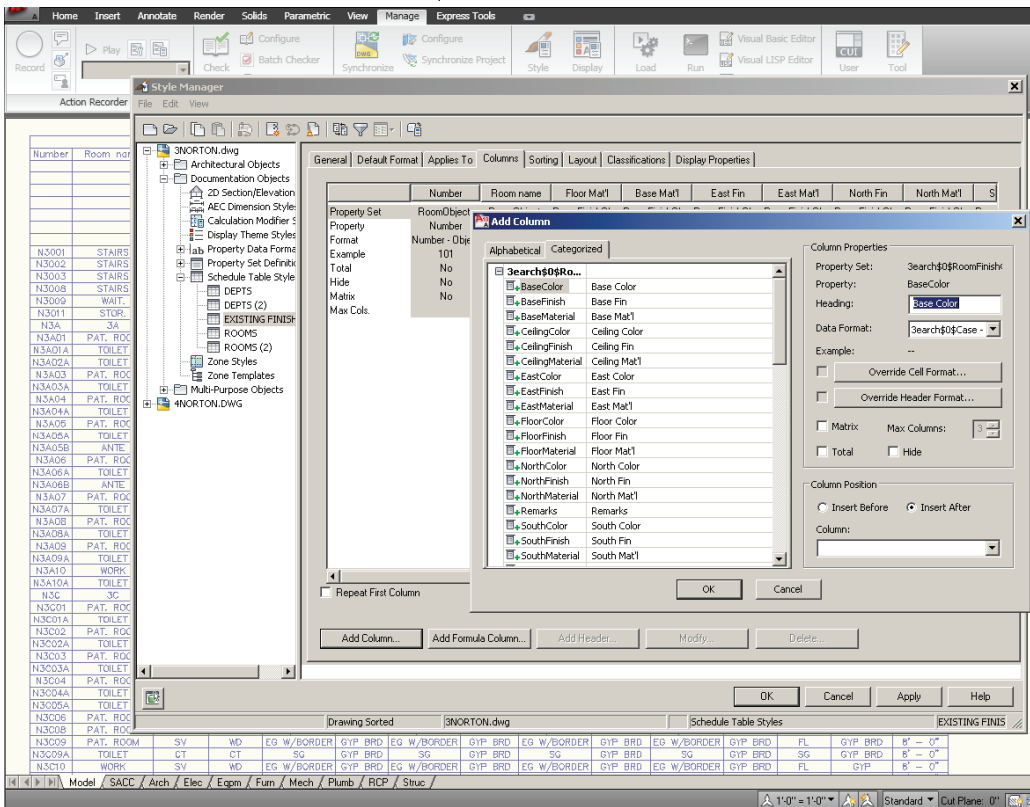

Figure 1: Schedule Table Style – Add Column.
- **Columns** allows you to add columns to represent properties that are reported in the schedule table style. You can also add column headings, edit column data, and edit column placement in your style (see Figure 1).